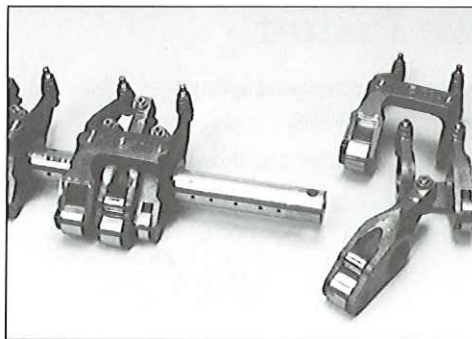

FIG. 61
5. Slide the rockers off the shaft (Fig. 61), marking the parts so they may be reinstalled in the same position.